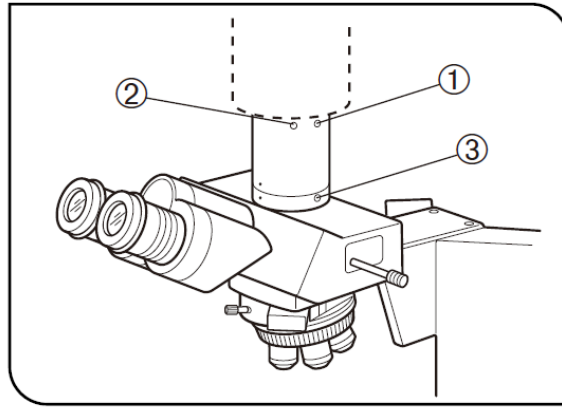

Fig. 3
### Adjusting the Parfocality Between the Observed Image and Displayed Image (Fig. 3)
**Rotating the Camera (Fig. 3)**